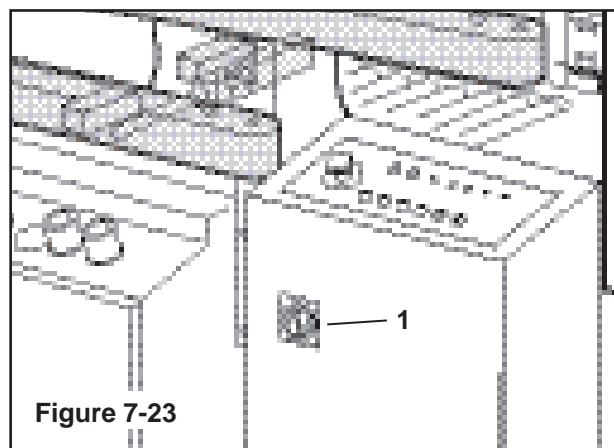

Figure 7-23
- Set the main switch 1 in ON (I) position (**Figure 7-23**).